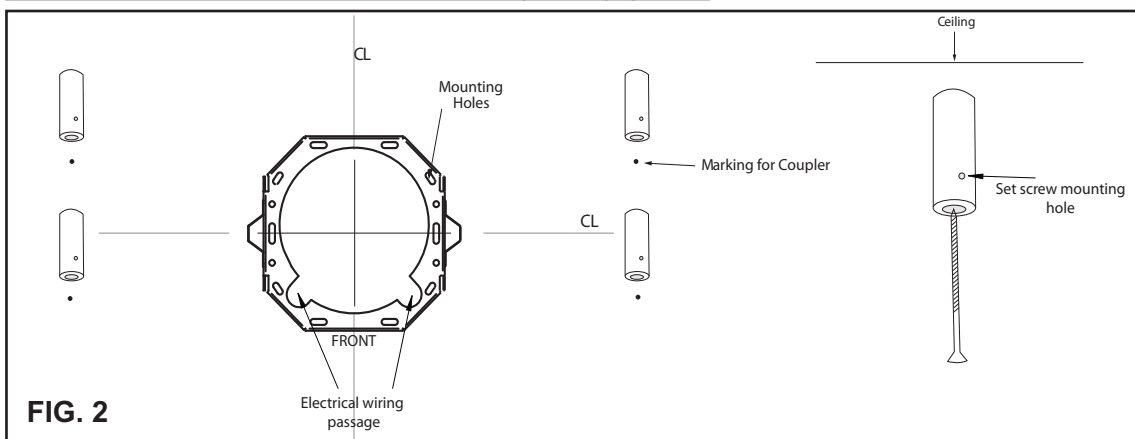

FIG. 2
4. Center, mark and fasten ceiling bracket onto ceiling using (4) M4*38 screws. Make sure the word "FRONT" displayed on the ceiling bracket is facing the front of the hood where the controls will be located. FIG. 2.
5. Attach telescopic rod couplers to marked locations on ceiling using (1) M4*2" wood screw for each coupler. Make sure the set screw mounting hole is toward the bottom of the coupler during mounting. FIG. 2.
Using a small flat head screwdriver, raise the cover of the battery door (A) in order to access the battery compartment. FIG. 2.